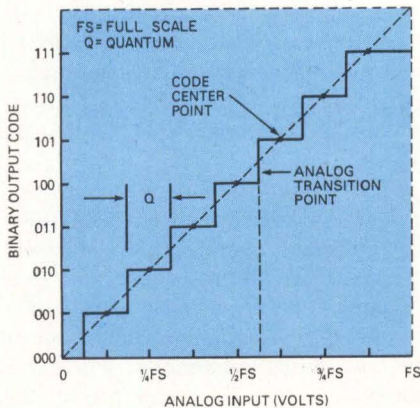

Fig 3 Ideal ADC transfer function. I/O graph illustrates 3-bit ADC which has quantized characteristic
Fig 3 illustrates the transfer function for an ideal 3-bit ADC. This transfer function is also discontinuous but without the one-to-one correspondence between input and output. An ADC produces a quantized output from a continuously variable analog input. Therefore, each output code word corresponds to a small range (Q) of analog input values. The ADC also has 2^n output states and $2^n - 1$ transition points between states; Q is the analog difference between these transition points.
Fig 4(a) shows an ideal ADC and an ideal DAC that digitize and then reconstruct an analog slow-voltage ramp signal. The ADC and output register are both triggered together so that the DAC is updated in synchronism with the A-D conversions. The DAC output ramp is identical with the analog input ramp except for the discrete steps in its output (not counting time delay). If the output ramp is subtracted from the input ramp as shown, the difference is the quantization noise—a natural result of the conversion process. This noise [Fig 4(b)] is simply the difference between the transfer function and the straight line shown in Fig 3. Quantization noise from an ideal conversion is therefore a triangular waveform with a peak-to-peak value of Q.